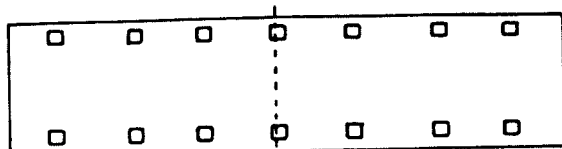

FIGURE 1 16MM CUT
Use Cutter (18A) for Straight, (18B) for Diagonal. Set Film on Matrix (6). Lower the Cutter. In 35mm, the cut occurs between perforations. In 16mm, at center of perforations. See Fig. 1 & 2.